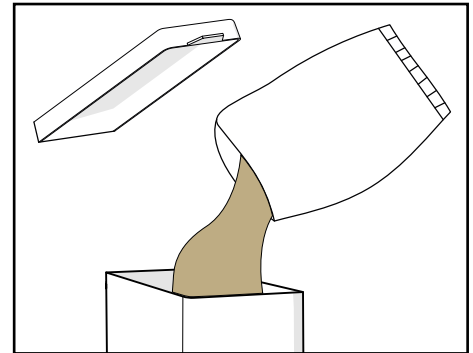

Figure 8.
3. Fill the canisters to a **maximum of three-quarters** of their capacity (see Figure 8).